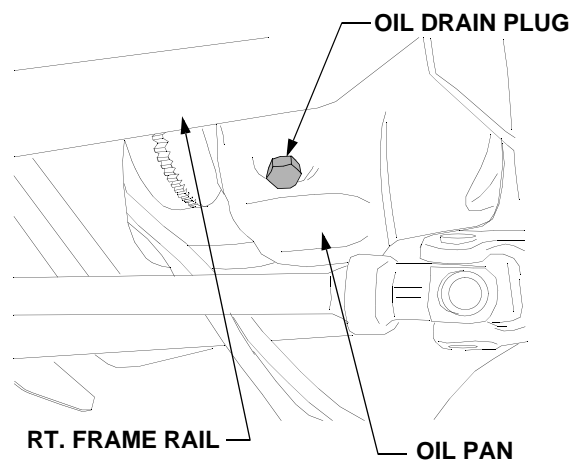

Figure 54
- Locate the engine drain plug on the *right* of the engine (See Figure 54). Place a suitable container below the drain plug to collect the old oil.
- Reinstall the drain plug in the engine and clean up any residual oil. Refer to Figure 54.